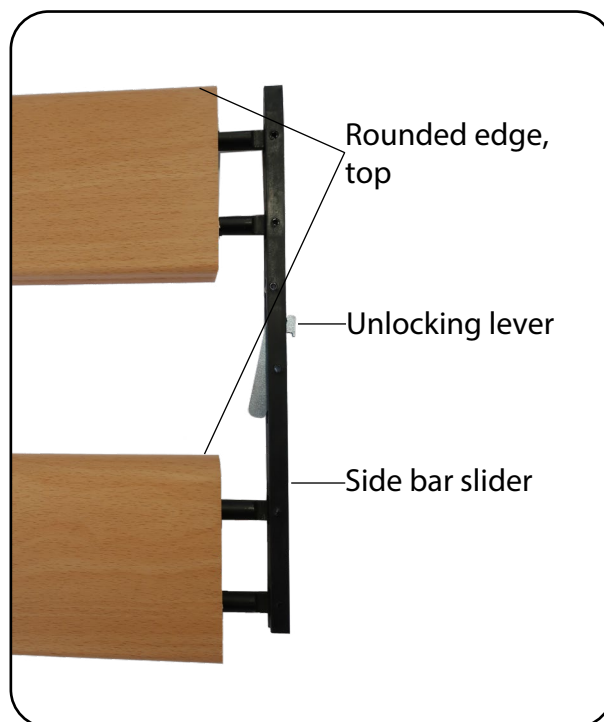

Fig. 6.4.01 – Side bars
2. To assemble the wood side bar slats, place two side bar slats flat and parallel on the floor. Insert the side bar sliders into the drilled holes on both ends of the slats (Fig. 6.4.01).
The wood side bars consist of two individual side bar slats with a cross section of 28 x 110 mm. The rounded edges are at the top. The specially designed plastic side bar sliders ensure the specified spacing is maintained (Fig. 6.4.01).